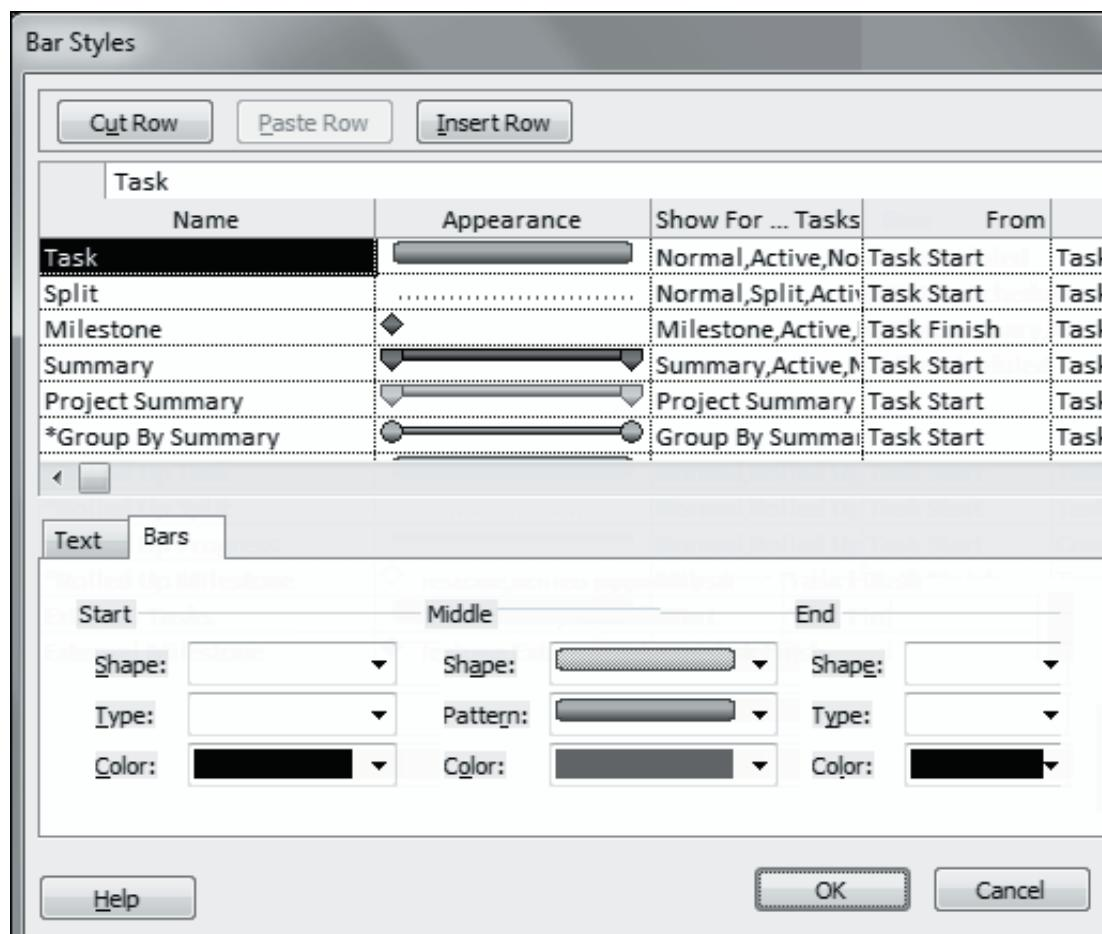

Figure 14.1: Bar Styles Dialog Box
1. In the **Bar Styles** group on the **Format** tab, click the **Format** button and select **Bar Styles** from the drop-down menu. This displays the **Bar Styles** dialog box as shown in figure 14.1.